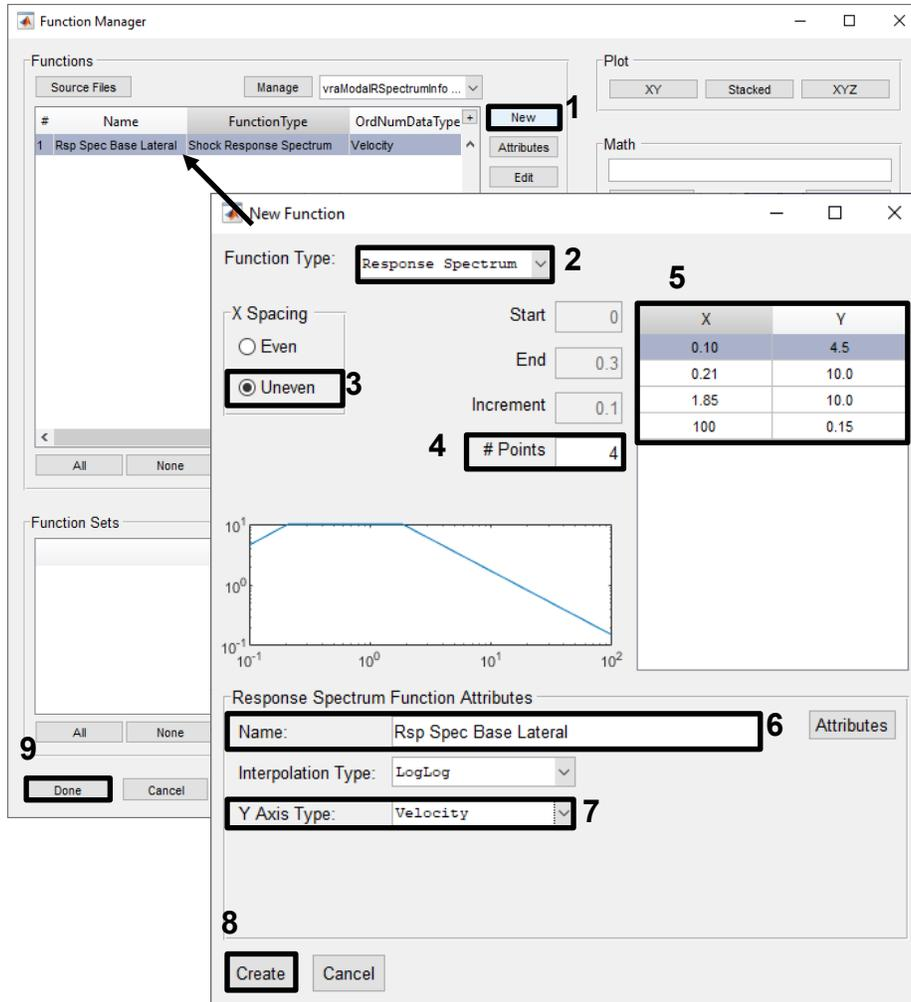
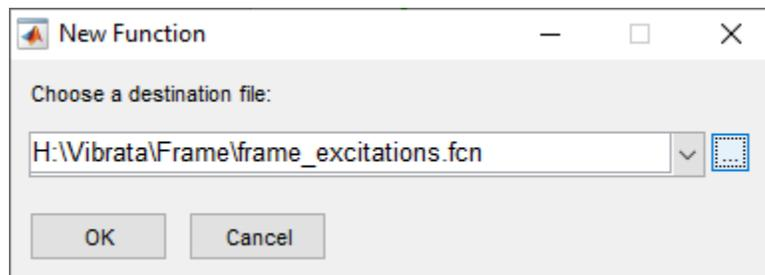

Figure 4-77. Define a Response Spectrum velocity function.
Figure 4-78. Store the new function in the frame excitations file.
- In the Function Manager, use the Source Files button to open the "frame\_excitations.fcn" file from section 4.2.3. (If you have not created that file yet, you will do so here when you finish defining the response spectrum function.) Define a new velocity response spectrum function as shown in Figure 4-77. Click the **Create** button and store the function to "frame\_excitations.fcn" (Figure 4-78). Click **Done** on the Function Manager main dialog to return to the Event Manager.